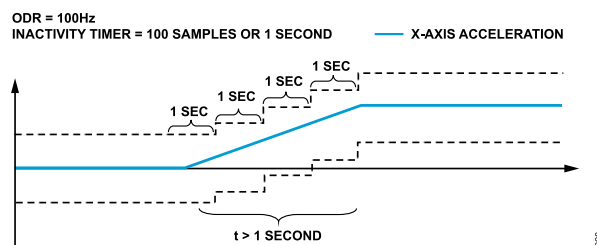

Figure 45. Referenced Inactivity Thresholds, Slow Change in Acceleration
- ▶ With the inactivity timer setting, this means that the device updates the inactivity reference once every second (because ODR is 100 Hz and the timer is 100 samples). This is shown in Figure 45.